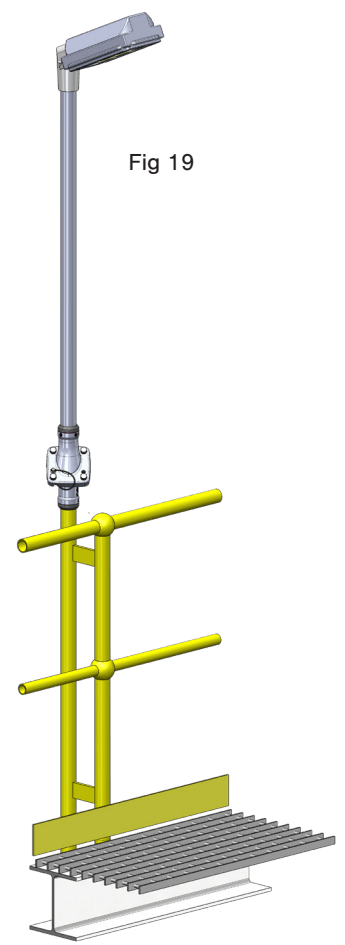

Fig 19
- Tighten the bolts evenly and alternately whilst ensuring the pole top is straight by manoeuvring vertically. (Fig 19)